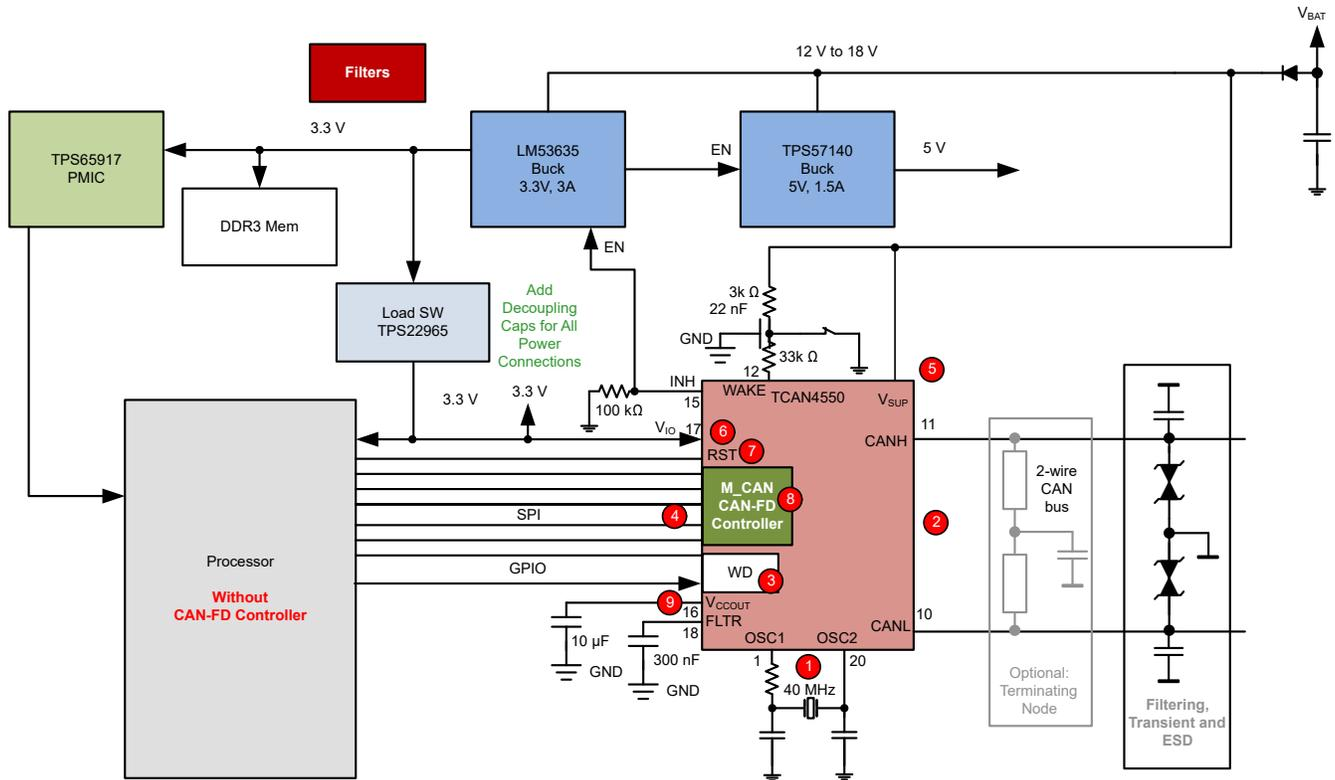

Figure 3-4. General Purpose Application
- General purpose applications where processor does not support CAN FD. See Figure 3-4